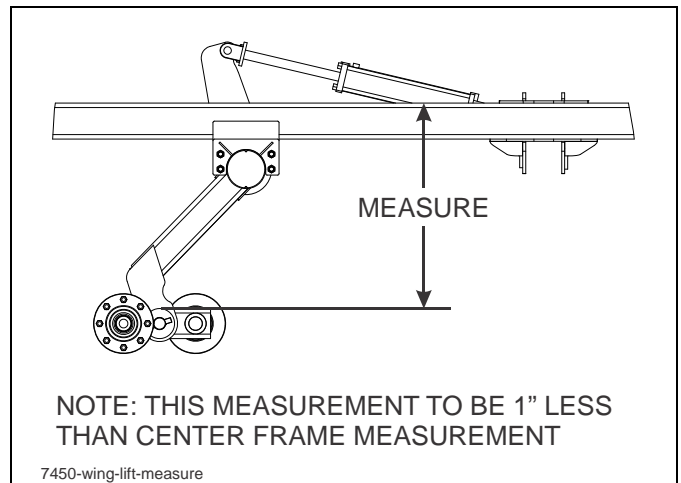

Figure 4-11: Leveling Wing from Side to Side
- e. On the wing frame, measure the distance from the welded washer to the top side of the wing frame (See Figure 4-11.)